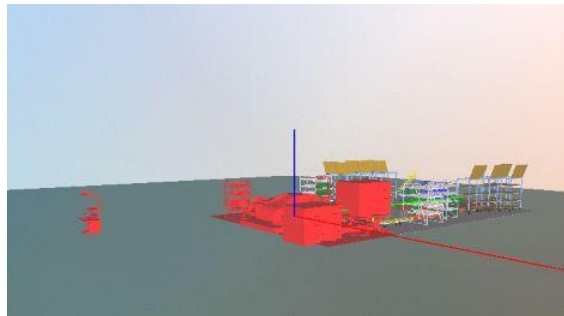

Figure 98: Shown Objects: Highlighted in Red
- 6) Then click the *OK* button. The objects are visible again in the graphic. *Please refer to the Figure 98.*